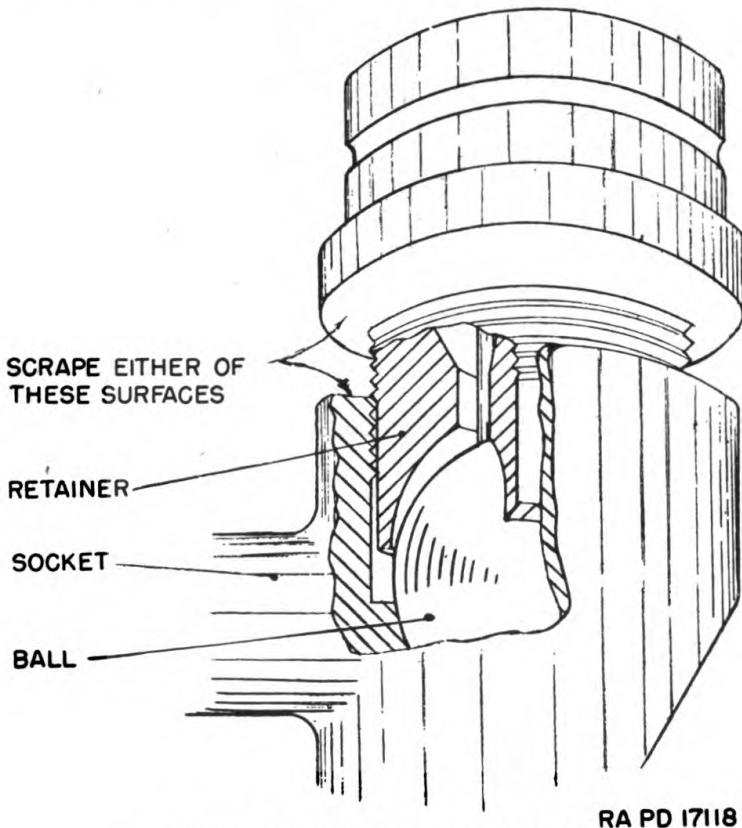
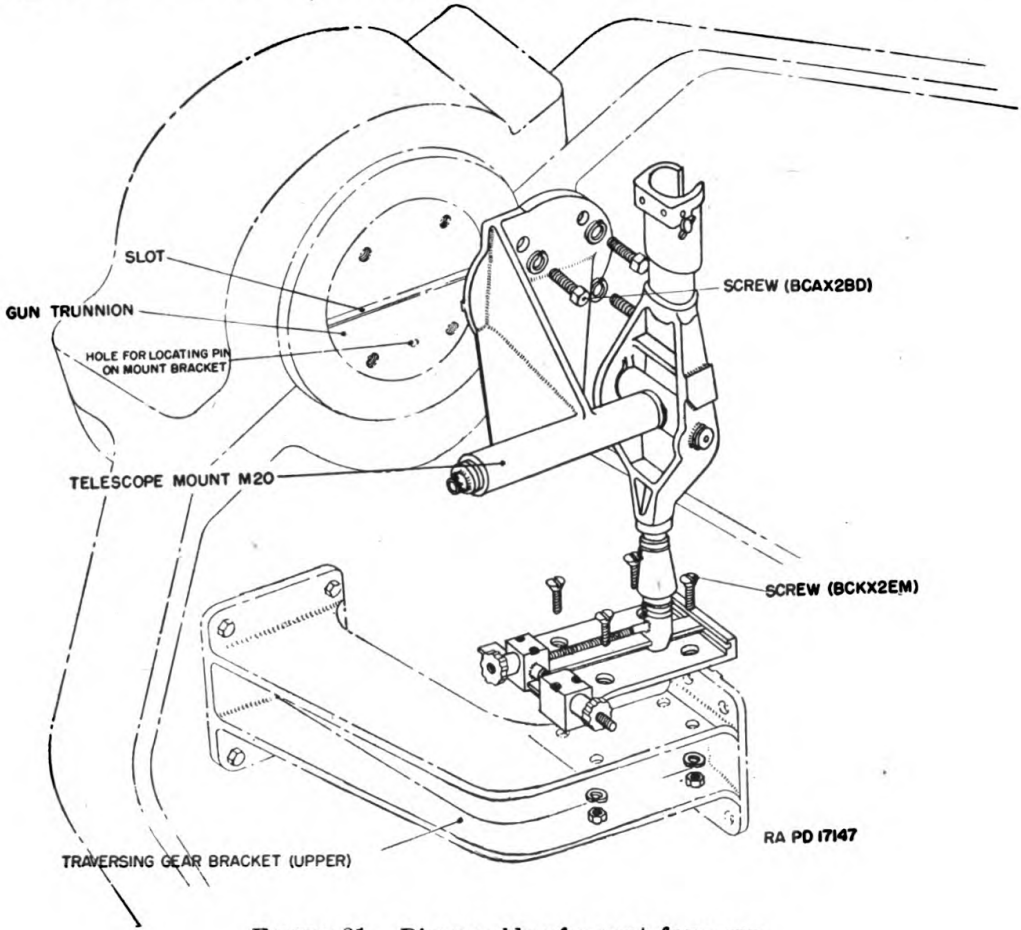

FIGURE 20.—Adjustment of ball joint.
FIGURE 21.—Disassembly of mount from gun.
b. Examine the telescope mount for completeness, appearance, condition of paint, and for bent or broken parts. The mounting screws, nuts, and washers (fig. 21) are part of the telescope mount and should be accounted for. The level vials and oil fittings should be undamaged. Check action of spring loaded level vial covers. If they are not held open and locked shut by action of the spring and plunger, a replacement of worn or broken parts is necessary (par. 30*f*).
b. If the ball joint is too loose in action, face off the shoulder of the retainer or socket until the ball is properly seated (fig. 20). If this does not correct the action, scrap the part at fault and replace it.
c. Electrical repair.—(1) Soldering iron.
(2) Solder, tin-lead, grade A.
(3) Paste, soldering.
b. Disassembly of mount from gun.—In removing mount from gun the leveling mechanism assembly should be removed from the carriage before bracket is detached from the trunnion (fig. 20).
(1) Remove the four screws (BCKX2EM), washers, and nuts securing the leveling mechanism assembly to the top carriage.
(2) Remove the four screws (BCAX2BD) and washers securing the bracket with support assembly (D29307) to the gun trunnion. In pulling the bracket from the trunnion, care should be taken to avoid damaging the locating pin (BFDX2EG) and the two horizontal keys which are cast with the bracket and fit the slots in the trunnion.
c. Removal of boot.—(1) Untwist the wires retaining the boot. Cutting the wires is undesirable for it involves the possibility of gashing or puncturing the boot (fig. 21).
(2) If the leveling mechanism assembly is loose, it may be disengaged and the boot pulled clear.
(3) In reassembling use fresh wire wherever possible and after twisting the ends bend them to lie on the boot neatly and out of the way.